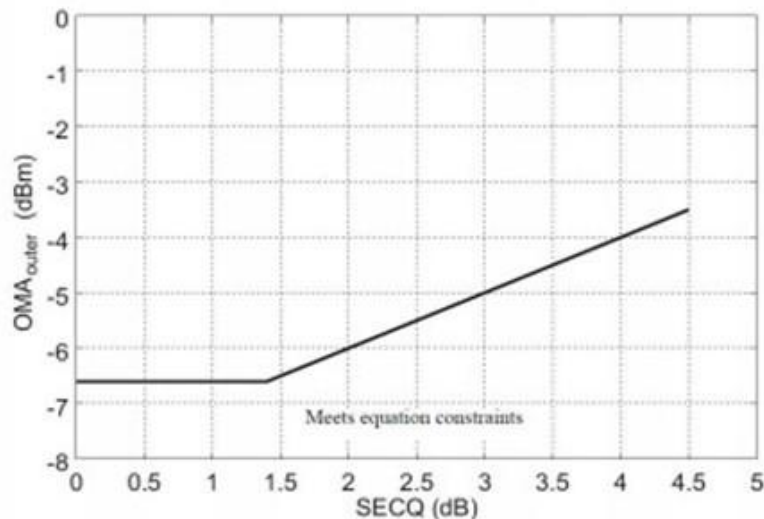

Figure 4 Illustration of Receiver Sensitivity
9. Receiver sensitivity is considered a normative requirement. RX sensitivity is defined for a transmitter with a value of SECQ up to 4.5dB. For transmitter with SECQ different from 4.5dB, limit is reported as per figure 4.